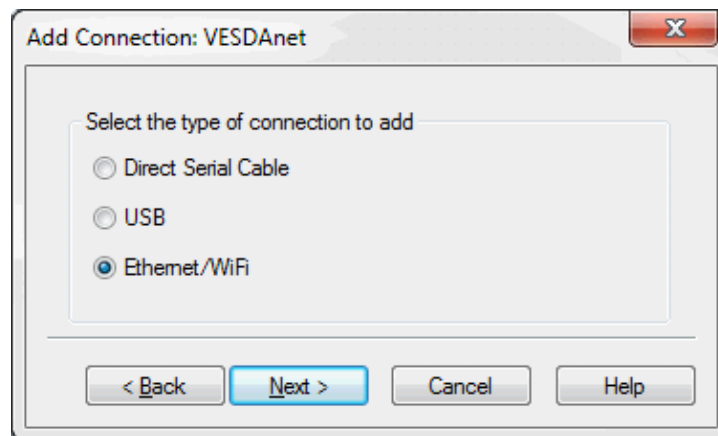

Figure 5-5: Select Ethernet
1. Select **Ethernet / WiFi**, then select **Next** (Figure 5-5).